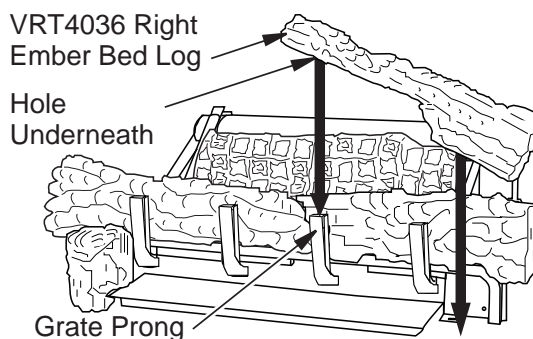

Figure 27 - Installing Right Ember Bed Log
4. The VRT4032 and VRT4036 use two different right ember bed logs. The VRT4032 right ember bed log is installed in the same manner as the log in step 3 above but on the right side. The VRT4036 right ember bed log has a hole in the bottom that sets on the grate finger and the other end rest on the fireplace floor, place log as shown in **Figure 27**. The back side of this log needs to rest against the front of the base assembly, make sure the flame from the ember pan does not touch the ember bed log.